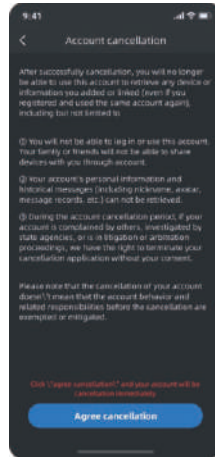

Figure 10
10) Figure 10: Display the prompt to cancel the account, click "**Agree cancellation**" to pop up a confirmation window for cancellation.